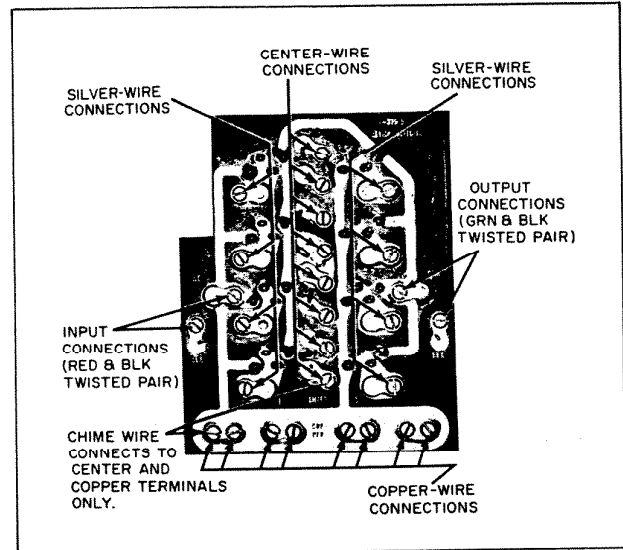

Fig. 2. Bottom view of printed circuit terminal board.
- a. Silver wire to numbered terminal (Fig. 2).
- b. Center wire to terminal marked center (Fig. 2)
- c. Copper wire to terminal marked copper (Fig. 2)
If a Nutone electronic chime is to be used with the system, connect the *two-conductor* wire in wall box to the center and copper screw terminals only on printed-circuit board (Fig. 2).